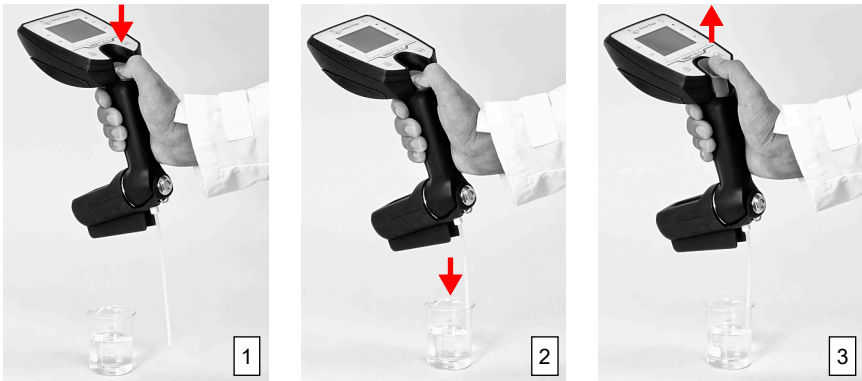

Fig. 9: Filling sample with the filling tube
1. Press down the pump lever as far as it will go (see fig. 9).